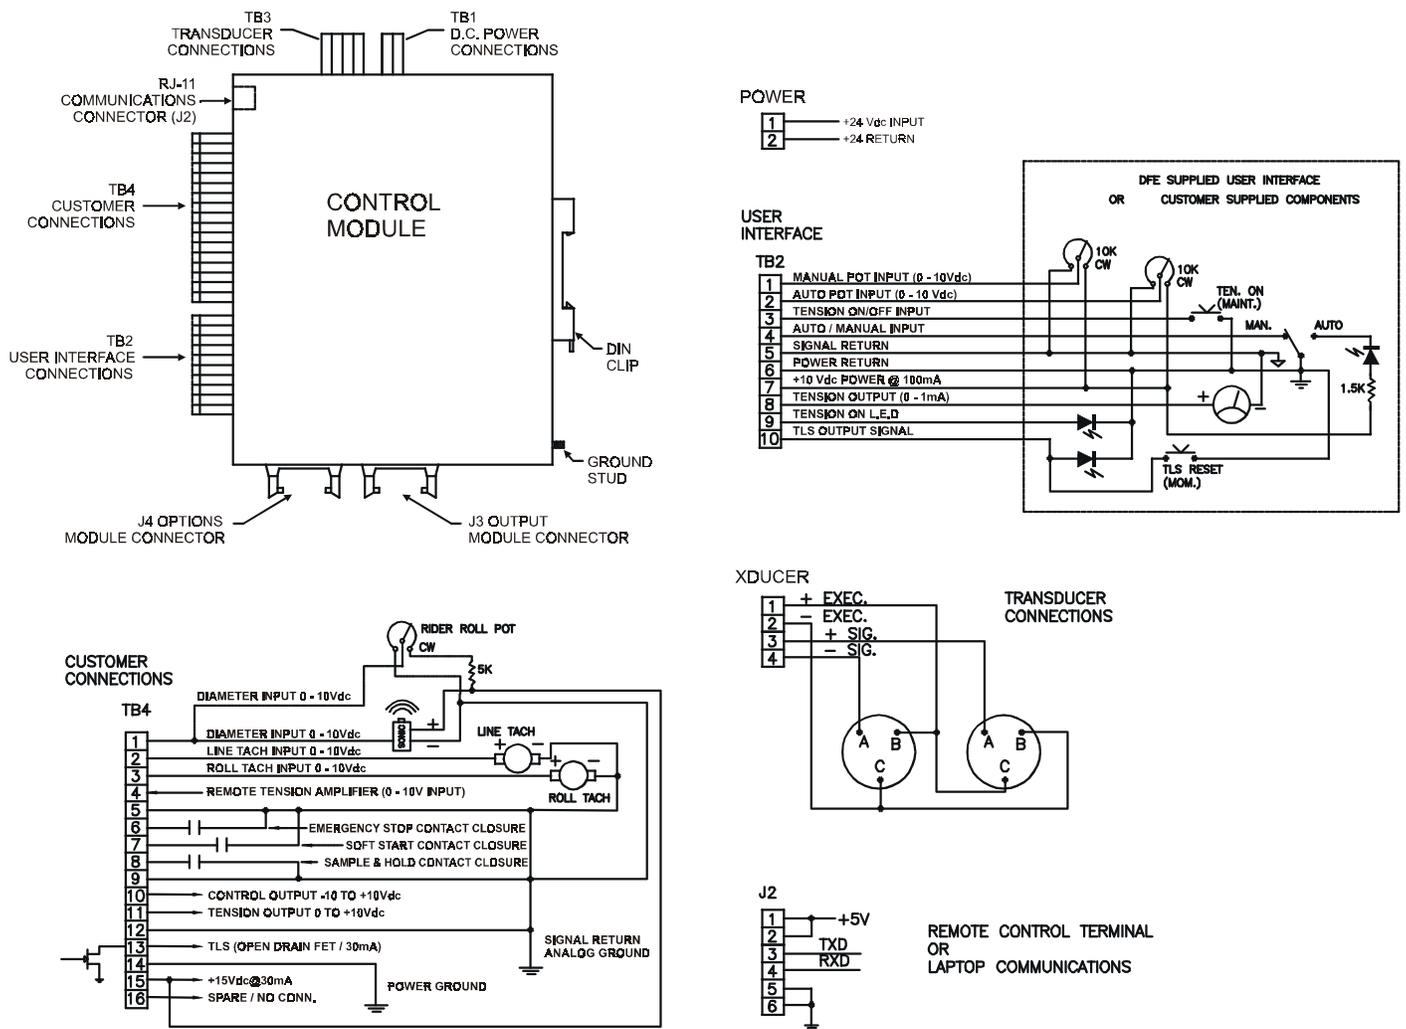

Figure 9 - CONTROL MODULE ELECTRICAL CONNECTIONS
2.4.1 ELECTRICAL CONNECTIONS BETWEEN THE CONTROL MODULE AND THE MACHINE (including power supply connections, see fig.9)
Connect your Control Module to your High Voltage Output Module using ribbon cable 721-1617. The ribbon cable is connected from (J301) on the HV output module, to connector J3 on the CM, which is marked “Output Module” See Fig. 9.